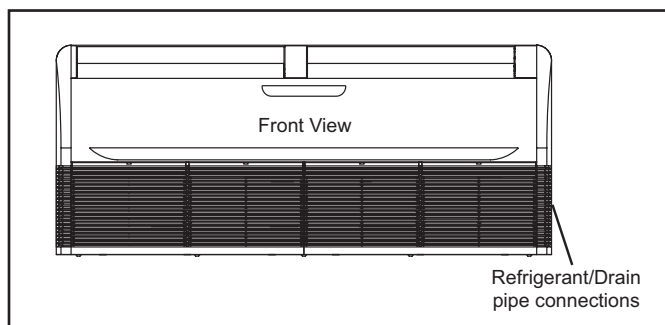

Figure 1. Floor/Wall Applications
- The unit should be installed high enough for a gravity drain to function properly. If necessary, a field provided external pump can be installed at the unit. See Figure 1 for pipe connection locations.